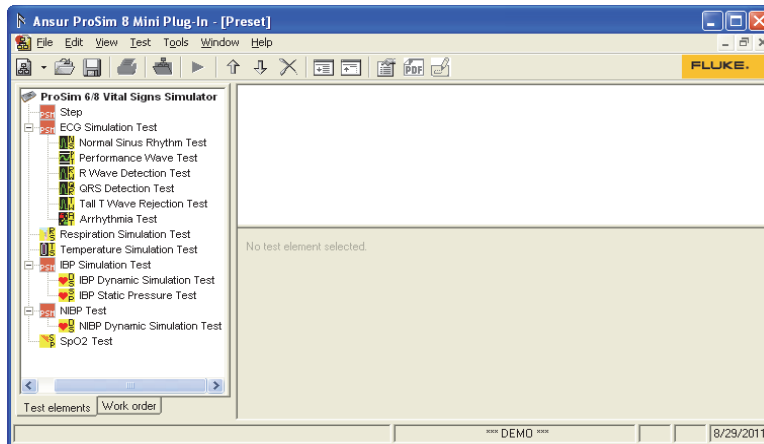

Figure 5-20. Open Presets Dialog Box
1. Click **Create** to open the window shown in Figure 5-20.